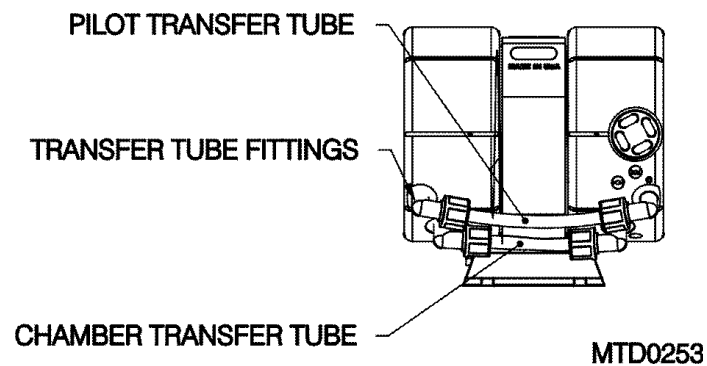

Figure 4-8
- Install fittings and transfer tubes. See Figure 4-8.